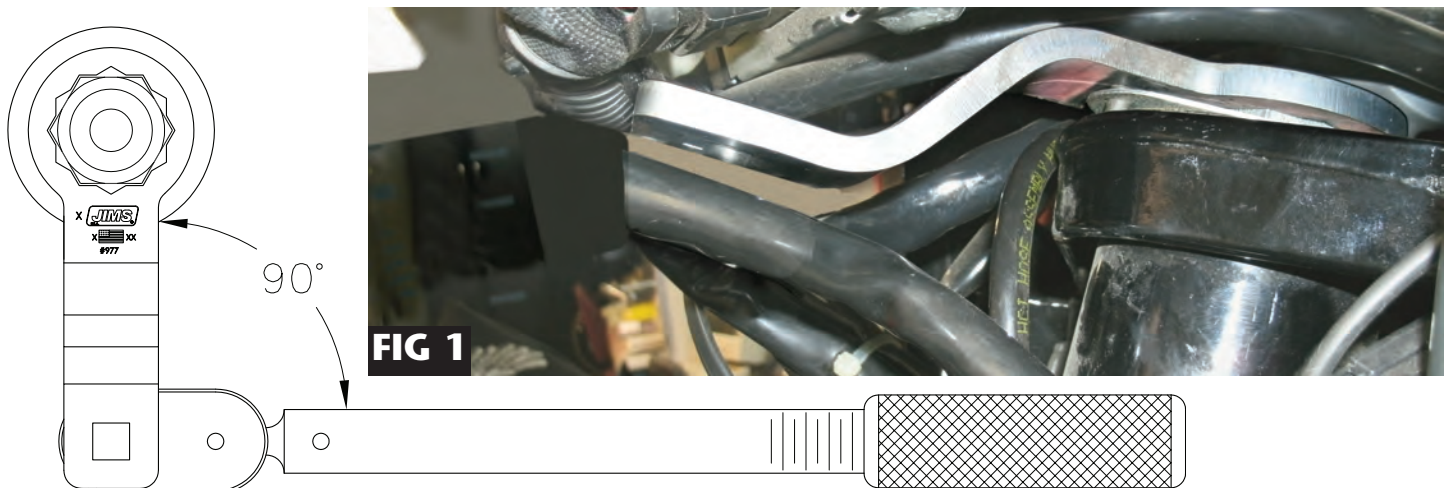

FIG 2
7. Tighten stem nut to H-D service manual specifications using a quality torque wrench. Position wrench at 90 degrees off handle as shown to reach the correct torque specification reading. **See Fig 2.**